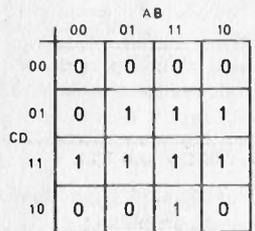

Fig. 1.8e. The full Karnaugh/Veitch map of equation 1
The full map for equation (1) is shown in Fig. 1.8e; as you can see, if there are any blank spaces we put a '0' in them.
We must now look for groups of '1's in the map; a group consists of 2, 4, 8 or 16 '1's adjacent to each other in squares or rectangles, with no '0's included. (If there are 16 '1's, then the map is full, and the solution is $Q = 1$; this is a rare and somewhat trivial case!) Groups can "fold round" the sides or the top. For example, in Fig. 1.8e you could form a '2 group' from square $A \bar{B} C D$ and square $\bar{A} B C D$.